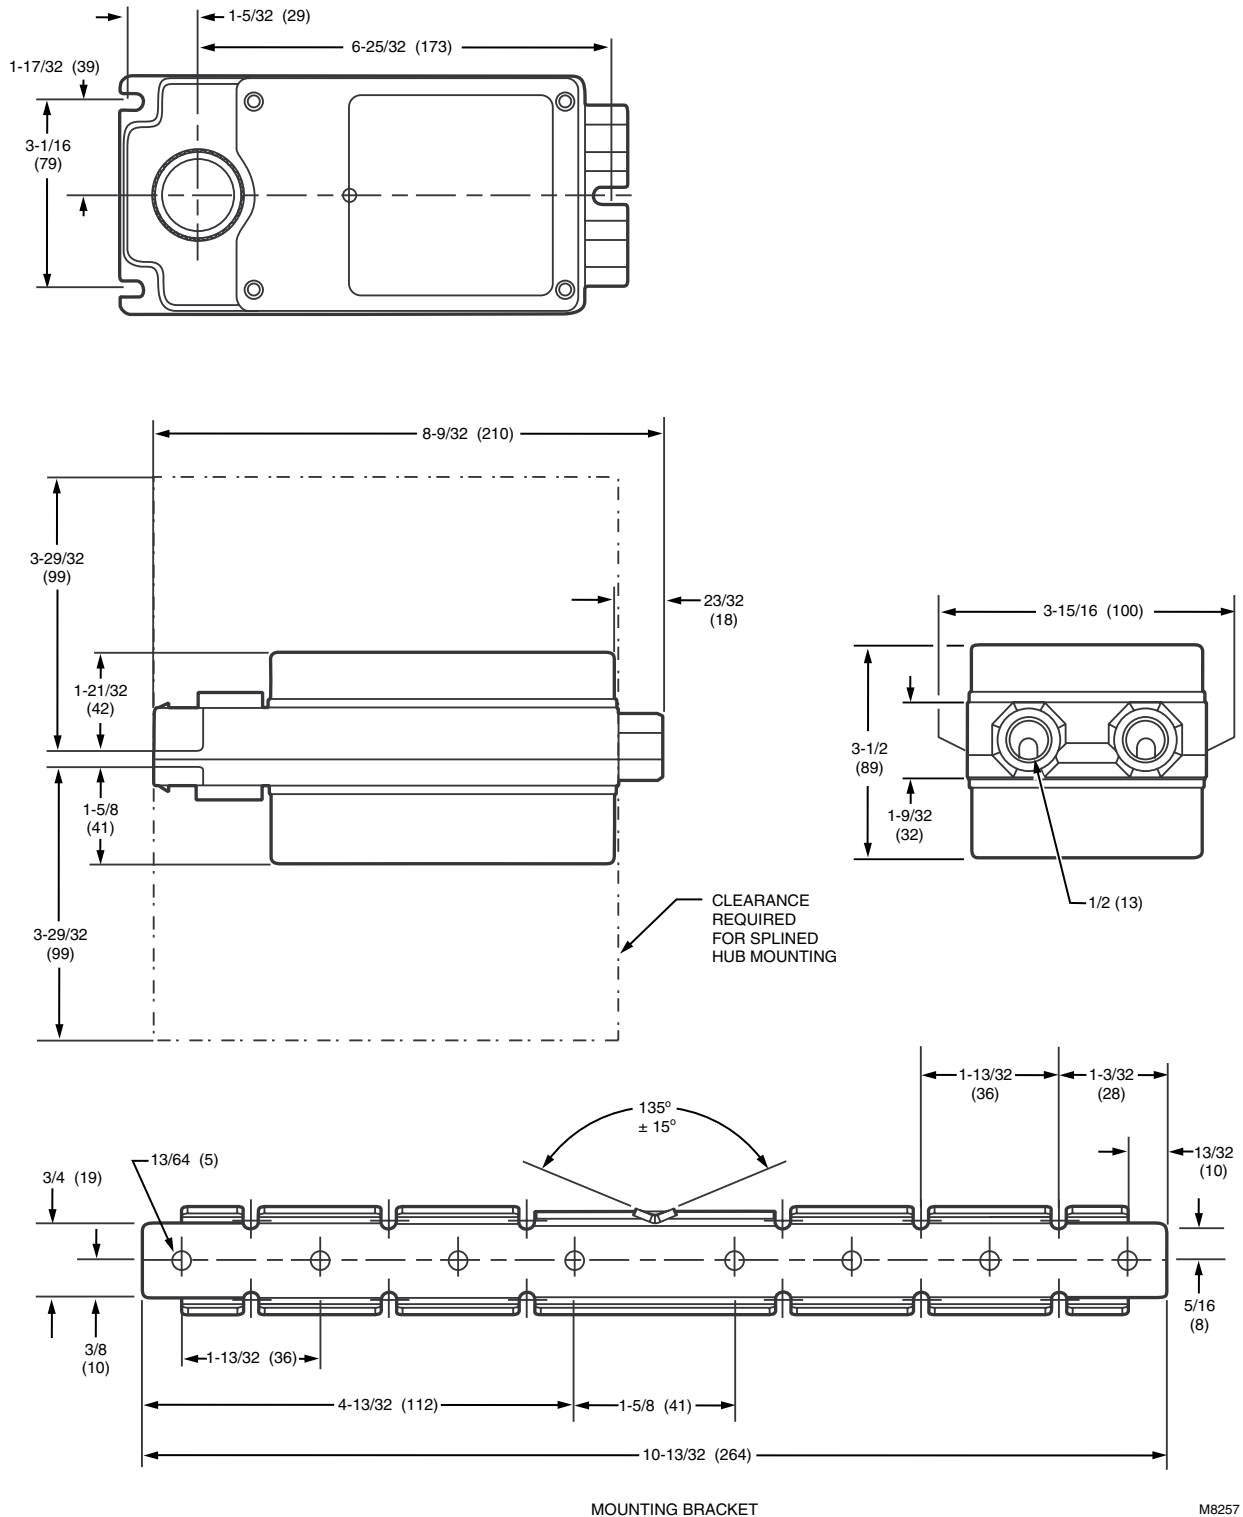

Fig. 1. Approximate dimensions of ML6275 Spring Return Direct Coupled Actuator and mounting bracket in in. (mm).
- See Fig. 1
A mounting bracket (see Fig. 1) is provided with some models to aid in installing the actuator. The bracket can be bent to any shape to support the actuator at the correct height.